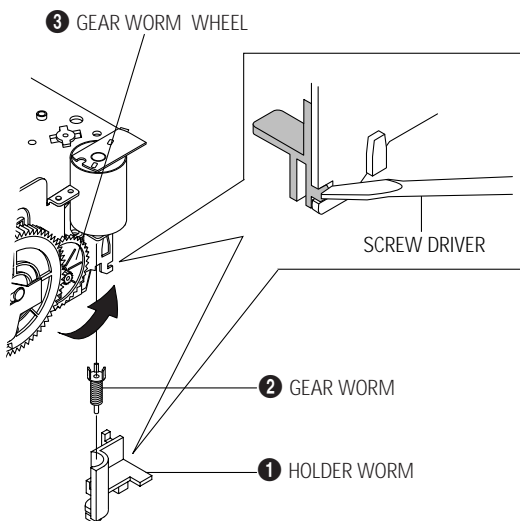

Fig. 2
- 1) Remove the Holder Worm **1** and the gear worm **2**. (See Fig. 2)
- 2) Turn the Gear Worm Wheel **3** counterclockwise in the direction of arrow with screw driver. (See Fig. 2)
- 4) Rotate Gear Worm Wheel **3** counterclockwise using screw driver again up to the state of eject mode and then pick out the tape. (Refer to Fig. 2)